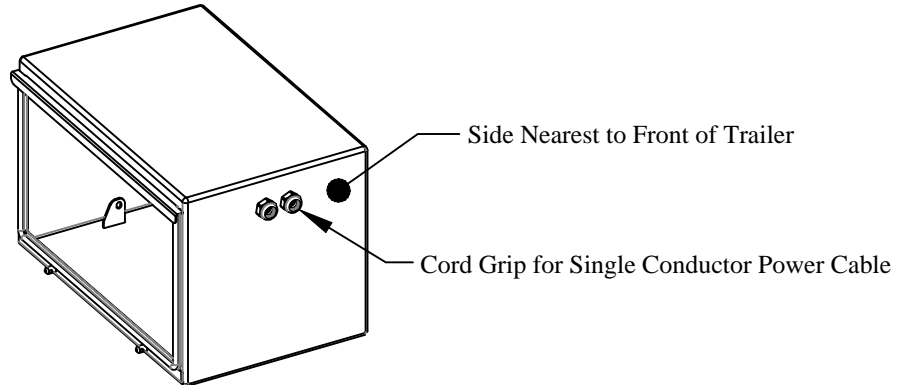

Figure 9: Location of front most cord grip.
1. **Route** the 62' single conductor power cable through the cord grip on the front most side of the auxiliary battery box, nearest the front of the trailer (Figure 9).